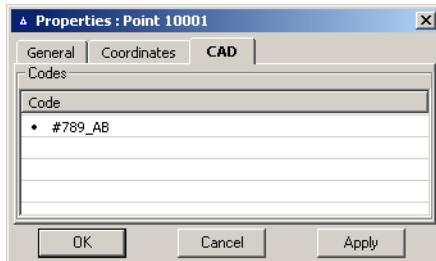

Figure 4-61. Point Properties – CAD Tab
2. On the **Properties** dialog box, click the *CAD* tab (Figure 4-61).